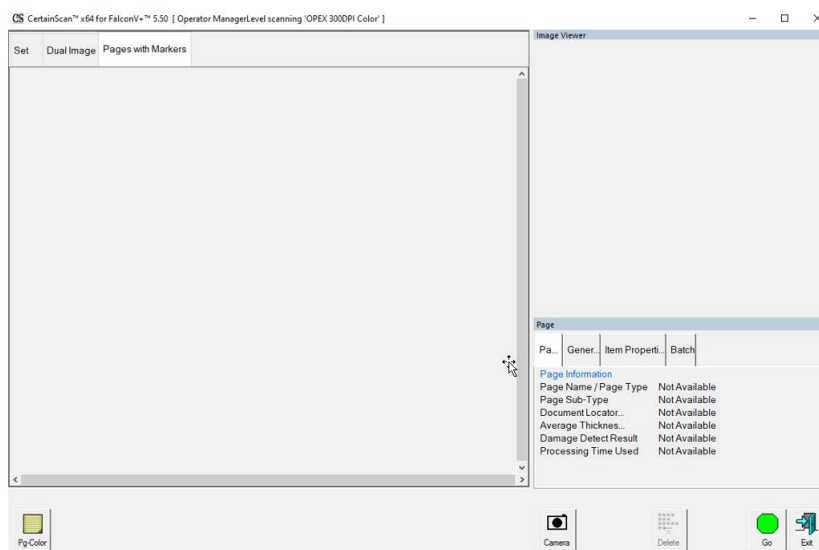

Figure 3-6: Run Screen
- Run Screen: The Job Page Type(s) are displayed, click on the **Go** button to begin scanning. No batch data entry required (Figure 3-6).